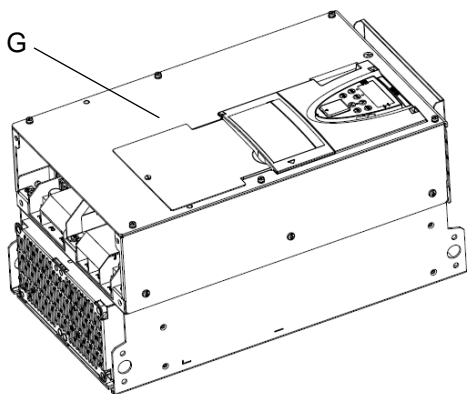

Figure 7
Step2: Remove the front cover of the inverter (G). See figure 7.